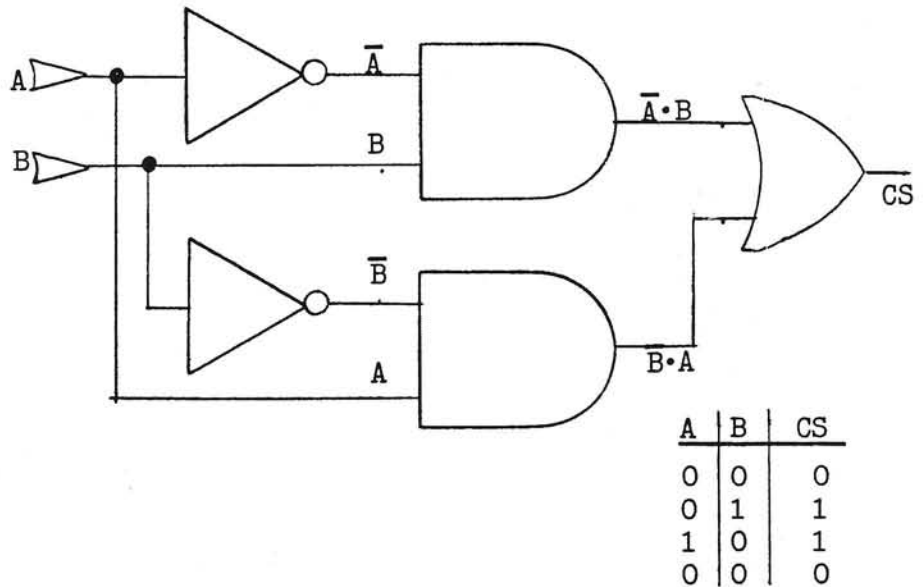

Figure 10: Truth Table and logic circuit for  $A \cdot B + A \cdot \bar{B} = CS$
One other design study will illustrate several points. Suppose we require a logic 0 signal on a chip select pin when either of two other signals, call them A and B, are either both logic 0 or both logic 1. When A and B have opposite logic levels our chip select must be 1. This is clearly an artificial situation which originated in my mind and not in a computer interface circuit, but it illustrates a point. The truth table which fits the description demanded by the design is shown in Figure 10. Following the steps outlined earlier we find that the Boolean equation which implements the truth table is
the value of CS is the value of the least significant digit in the binary sum of A and B. Thus equation (5) is also part of an adding circuit. If A and B are ANDED the correct value for the "carry" part of the binary addition is also produced. Together these circuits form what is a "half adder." Figure 10 also gives the logic symbol implementation of equation (5).